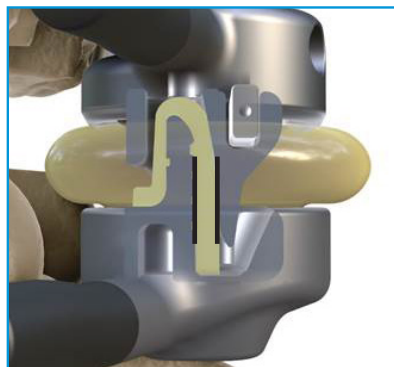
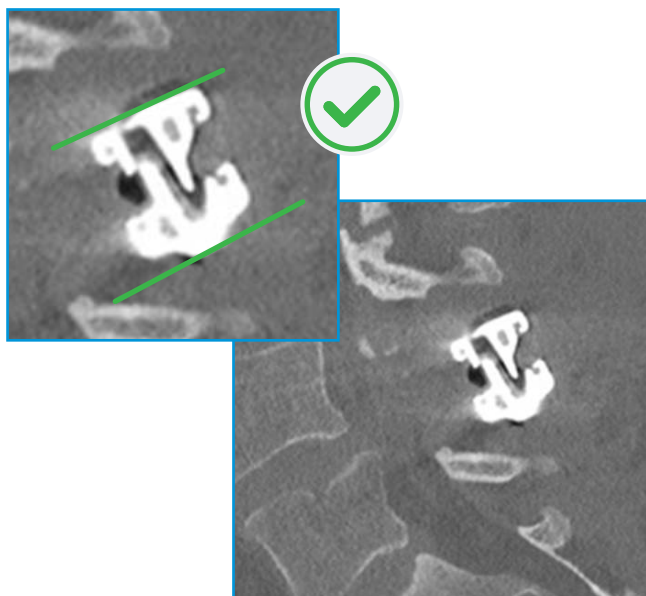
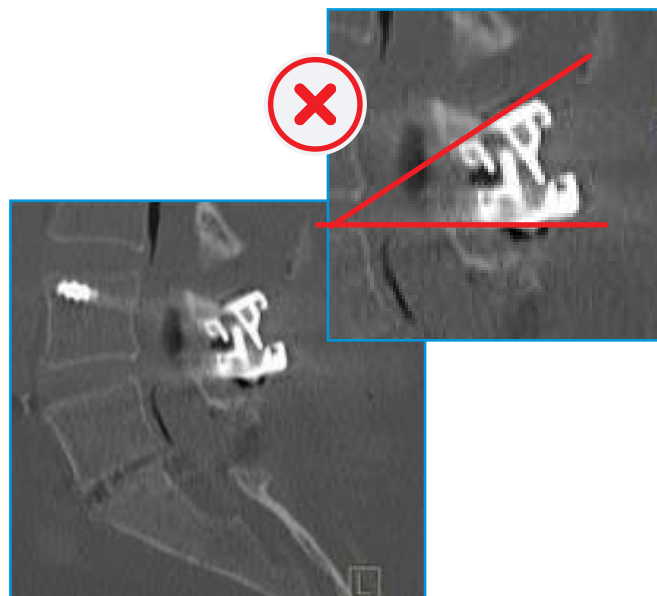

Figure 44a: Parallel articulating surfaces of TOPS Motion Implant
Figure 44b: Correct orientation
Figure 44c: Incorrect orientation
- i. Confirm that the endplates of the TOPS Motion Implant are parallel, and that the articulating surfaces are parallel as well (Figure 44a and Figure 44b indicate correct orientation, and Figure 44c indicates incorrect orientation).